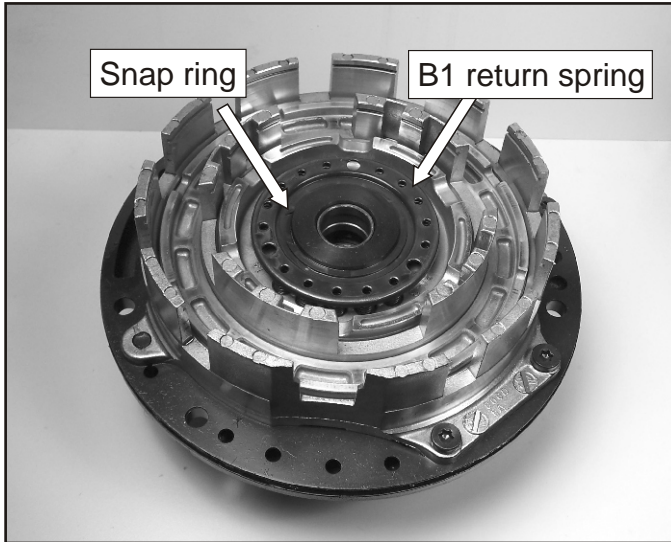

Figure 103
52. Using a suitable press, remove the snap ring and B1 return spring assembly, as shown in Figure 103.